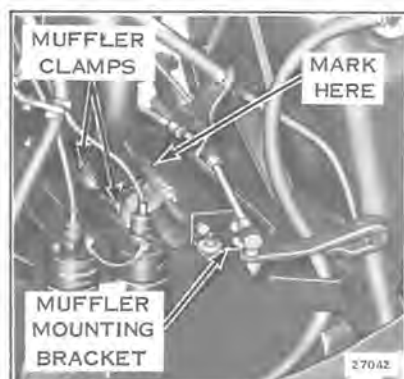

Figure 9-23
1. Mark exhaust manifold at top of muffler inlet for location on re-assembly. See Figure 9-23.
4. Remove muffler mounting brackets. See Figure 9-23.
5. Loosen Muffler clamps. See Figure 9-23.
5. Assemble muffler clamps and tighten equally on both sides of "U" bolt. Assemble in position per Figure 9-23.